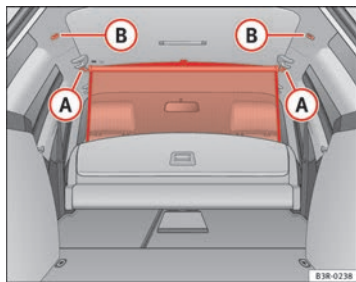

Fig. 121 Retainers for the net partition
- Engage the ends of the bar in the retainers **(B)** ⇒ fig. 121.
- Engage the ends of the bar in the retainers **(A)** ⇒ fig. 121.